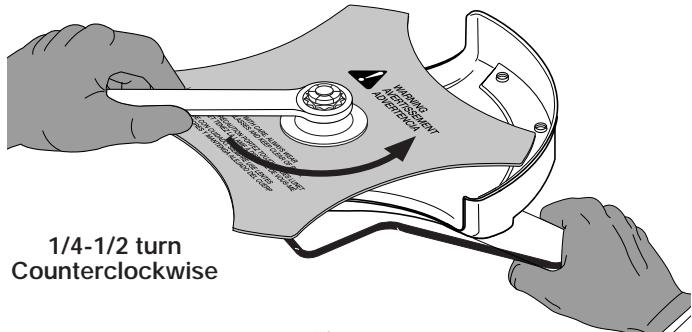

Fig. 18
- Without a torque wrench, use a 5/8 inch closed-end or socket wrench, turning the nut until the blade retainer is snug against the shaft bushing. Make sure that the blade is installed correctly, then rotate the nut an additional 1/4 to 1/2 turn counterclockwise (Fig. 18).